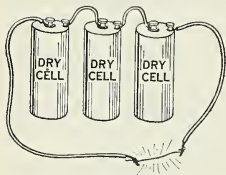

Fig. 293. To show that a current heats iron wire.
*Directions:* Connect as shown in Figure 293.